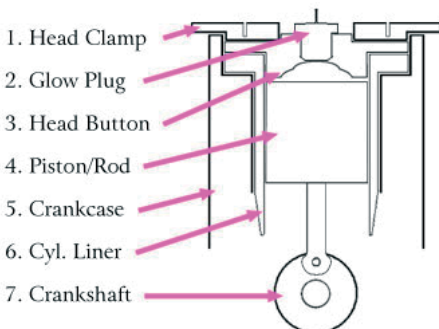

Figure 1.
Figure 1 is a cartoon cut-away drawing of the inside of an F2D engine, as viewed from the rear (i.e. through the backplate). For simplicity, ports in the case and liner that allow fuel, air, and exhaust in and out of the combustion chamber are not shown. Variations on this diagram will be used throughout this guide, so take a moment to familiarize yourself with the way each of the pieces is drawn here. The drawing is not intended to be accurate to any kind of scale, and is a fairly generic depiction of the inside of any F2D engine. Note that a few engines, such as the Cyclon PC6, combine the head clamp (1) and head button (3) into a single piece.